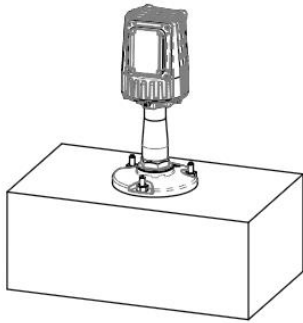

Figure 3-7
- After pre-tightening the lighting fixtures, screw down the lighting fixtures with special wrench. (See Figure 3-6 and Figure 3-7).